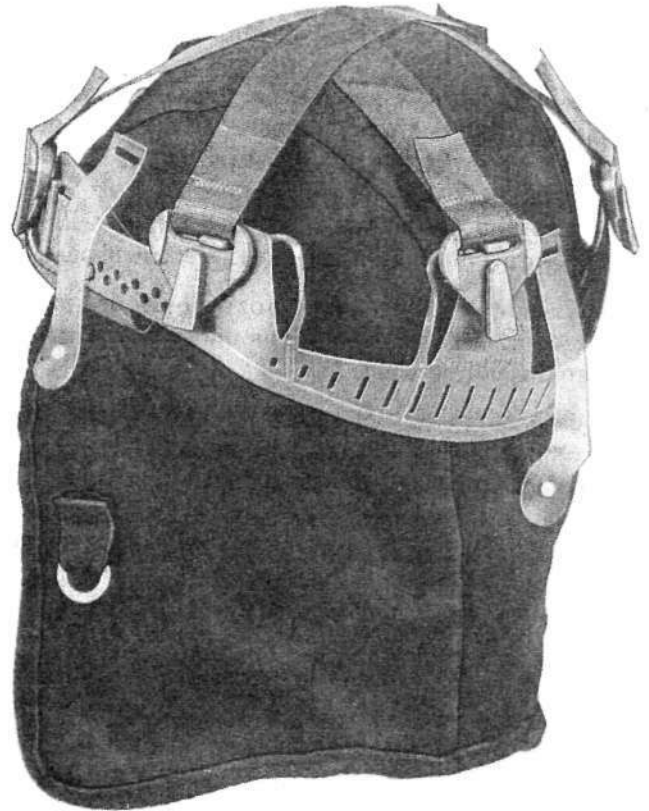

Fig. 10—▶Winter-Liner for Estherene II Headgear with Suspension Over Liner◄
2.08 Winter liners for use with Estherene II Safety Headgear are available as accessory items. The liner is worn with the suspension over the liner as illustrated in Fig. 10.